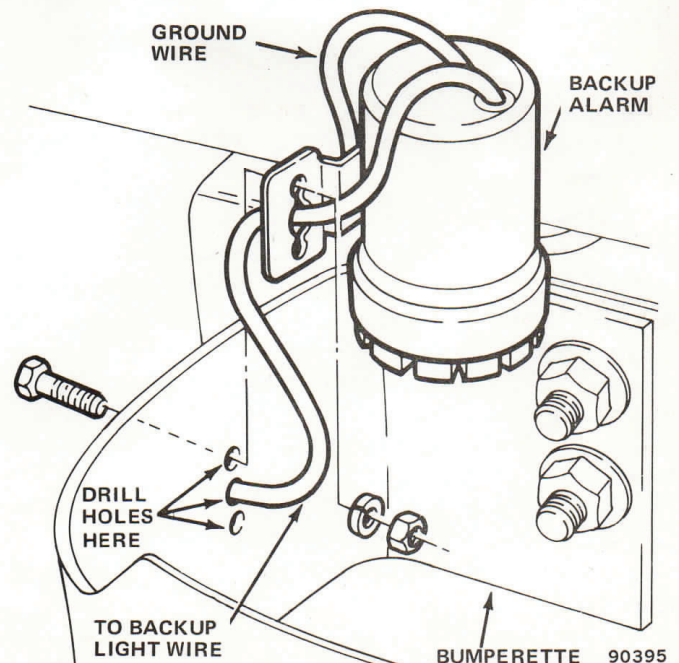

Fig. 15-3 Backup Alarm Installation
(1) Using alarm mounting bracket as guide, mark and centerpunch location for mounting bolt and wire holes. If vehicle does not have bumperettes, alarm is located on left-hand side of rear crossmember, approximately 3 inches from end. If vehicle has bumperettes, alarm is located inboard left side of left bumperette (fig. 15-3).
(2) Drill three 1/4-inch holes in rear crossmember or bumperette.
(3) Mount alarm with furnished hardware. Ensure black wire (ground) is securely attached to bracket.